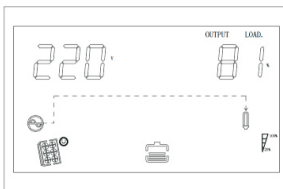

Figure 1-8 Display page 6
**Display page 6:** Output Information displays output voltage and load percentage, as shown in Figure 1-8